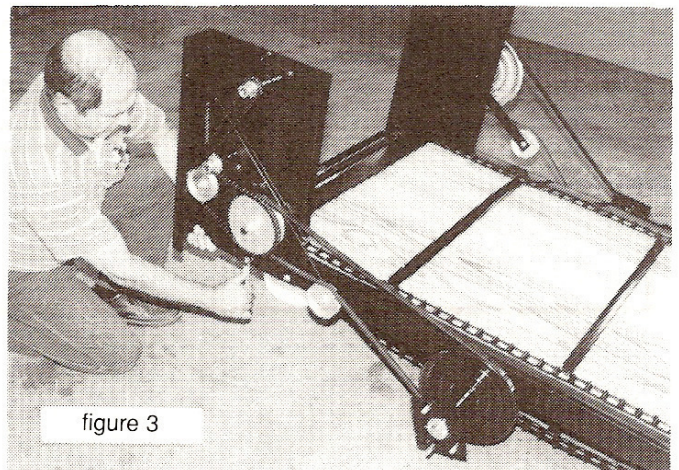

figure 3
5. Install the beater drive transmission (see figure 3). Mount this transmission on the opposite side of the spreader (MAKE SURE THE TWO TRANSMISSIONS ARE PARALLEL WITH EACH OTHER ACROSS REAR OF SPREADER).